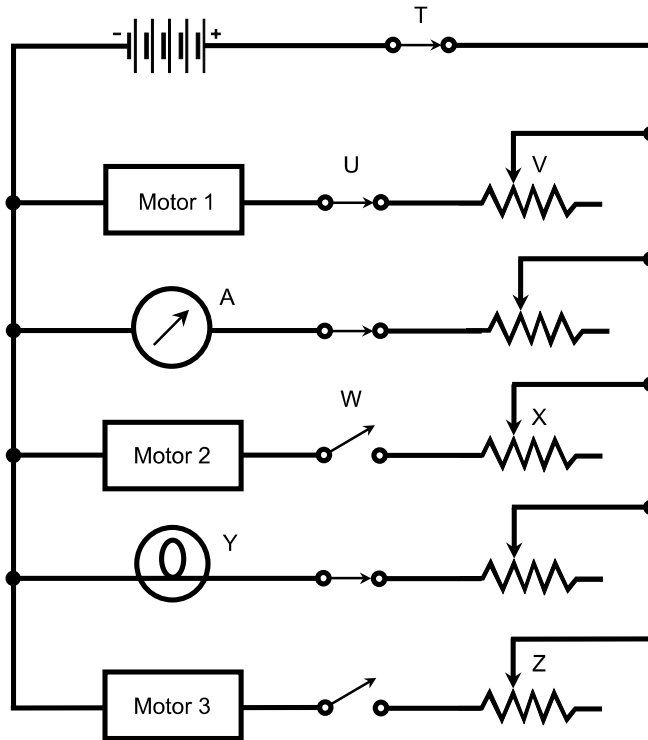

Fig. 1-15. Illustration for Quiz Questions 1 through 10.
This is an “open book” quiz. You may refer to the text in this chapter. A good score is 8 correct answers. All of the questions in this quiz refer to Fig. 1-15. Answers are in Appendix 1.
1. The circuit shown by Fig. 1-15 contains a battery, three motors, an ammeter (labeled A, which measures electric current), a lamp, five
2. What will happen if switch T is opened, but all the other switches are left in the same positions, as shown in Fig. 1-15?
6. Which component, if any, does potentiometer Z affect, assuming that the switches are in the positions shown by Fig. 1-15?